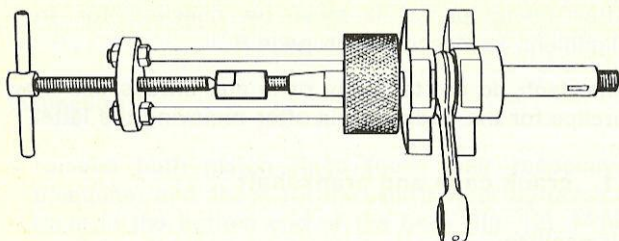

fig. 19
- remove (if necessary) both ball bearings, using special tool (nr. 1 on page 13) and adapter (nr. 9 on page 13), as illustrated in fig. 19. Both bearings are of the 6302 type, having an external diameter of 42 mm.